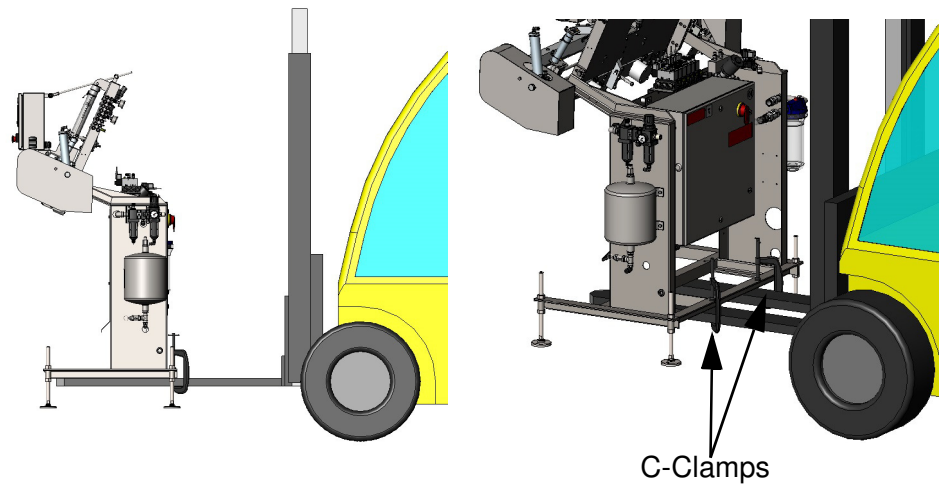

Figure 2-1. Lifting/Transport - Standard Machine Frame
Note: For equipment with a standard machine frame, lift from underneath the frame as shown in Figure 2-1. Do not lift under the electrical enclosure. Use C-clamps to secure the machine frame to the forks to prevent the machine shifting or tipping.
1. Use a forklift to raise the machine as shown in Figure 2-1.